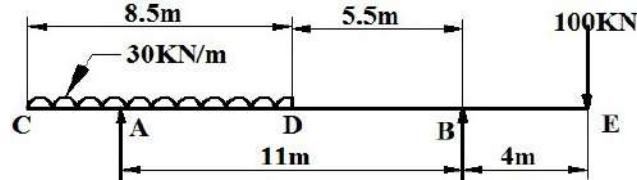

Figure 24
14. Draw shear force and bending moment diagram for the beam loaded as shown in the **Figure 24**.